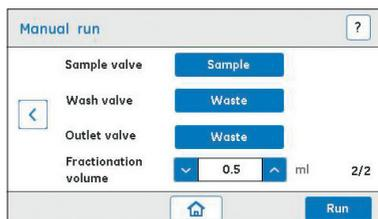

Fig 5. ÄKTA start display: Screenshot of the **Manual run** screen (2/2).
- g. Set **Sample valve** to Sample (Fig 5).